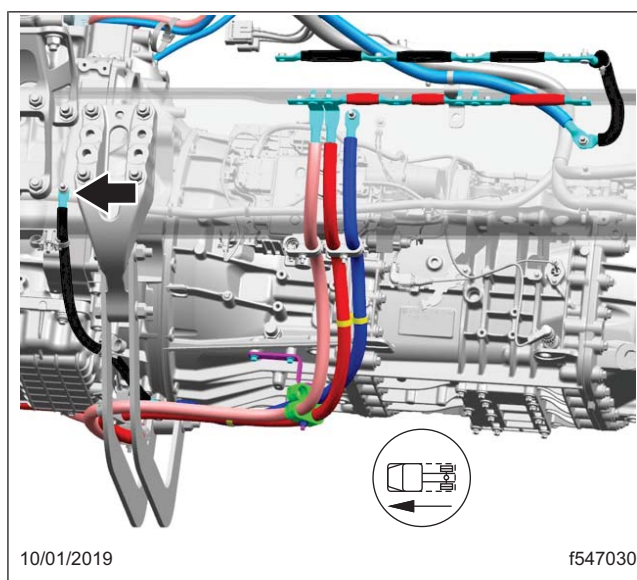

Fig. 4, Location for the Ground Strap
- 5.1 Check to see if the battery box is mounted between the frame rail. On vehicles that have a battery box mounted between the frame rail, there is a ground strap running from the flywheel housing to the left-hand side frame rail. This is the most accessible frame rail stud for mounting the redundant ground strap. See Fig. 4.
- 5.2 If the vehicle has an under-cab battery box, check for a ground stud on the left side outer frame rail. There will be a difference between applications with frame rail battery box mounting and an under-cab battery box mounting, depending on the 282 data code for the build. Vehicles with an under-cab battery box mounting will not have the ground mounting stud, as shown in Fig. 5. In this case, the best location is the GNDP stud shown in Fig. 4.